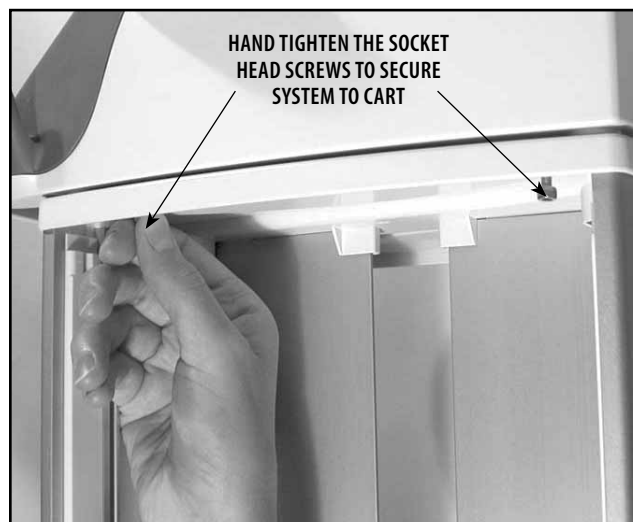

FIGURE 6.54
3. Secure the System to the cart with the four socket head screws in the Therapy System Cart Top. See Figure 6.54.